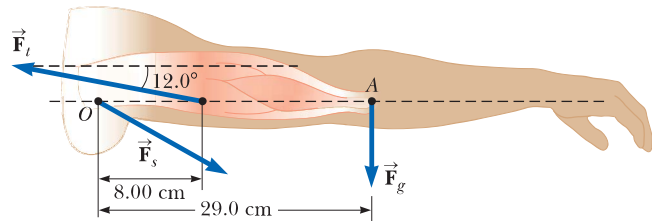

Figure P12.41
41. The arm in Figure P12.41 weighs 41.5 N. The gravitational force on the arm acts through point A . Determine the magnitudes of the tension force \vec{F}_t in the deltoid muscle and the force \vec{F}_s exerted by the shoulder on the humerus (upper-arm bone) to hold the arm in the position shown.